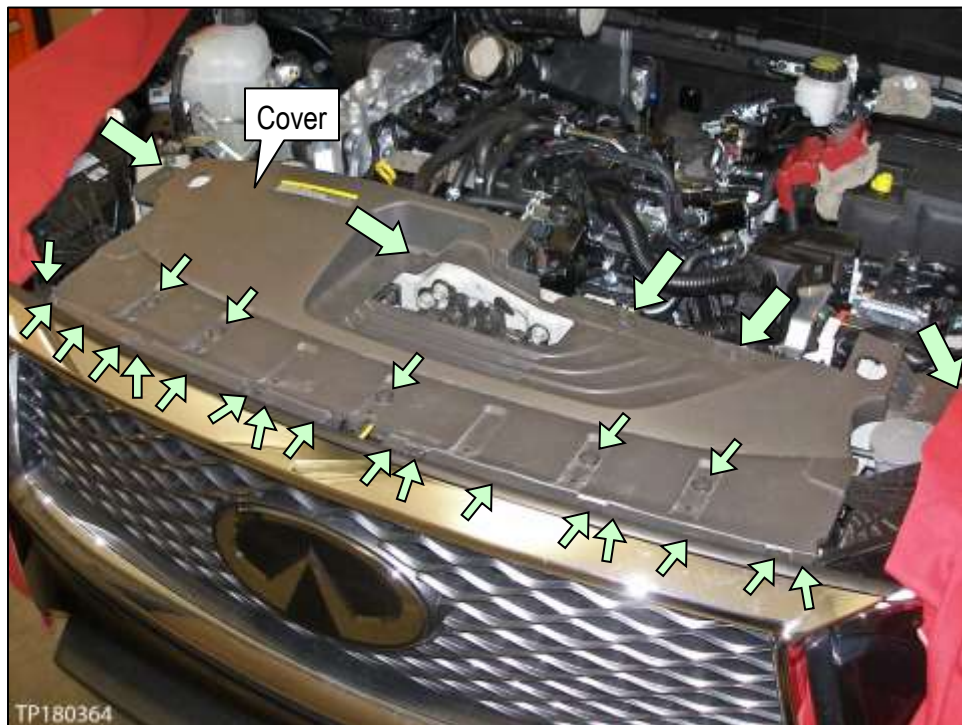

Figure 84
53. Position the core support cover, and then install the clips (see green arrows in Figure 84).